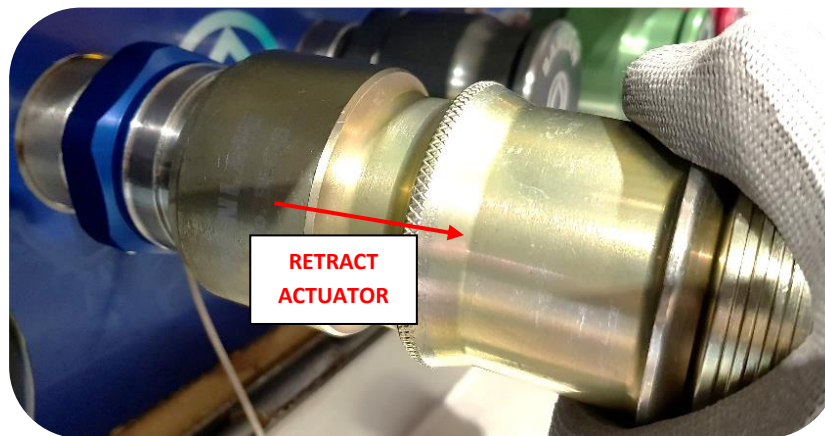

Figure 8 - Connecting the Coupling and Receiver
6. Manually retract the Actuator of the Evacuation Coupling, align the front recess of the Evacuation Coupling with the Receiver, and in one steady motion, push the Evacuation Coupling onto the Receiver – refer Figure 8.